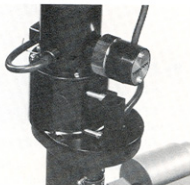

Fig. 79
- (d) The background illuminator may hit the patient's forehead, when the slit illumination system is inclined. In such cases, therefore, detach the background illuminator (refer to Attachment of the Background illuminator), wrap it around the slit illumination system and store the background illuminator on the setting pin for the background illumination  over the slit mechanism (See Fig. 79)